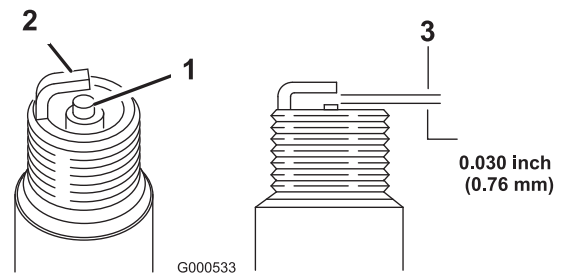

Figure 30
2. Disconnect the wire from the spark plug (Figure 30).
5. Set the gap on the plug to 0.030 inch (0.76 mm) (Figure 30).